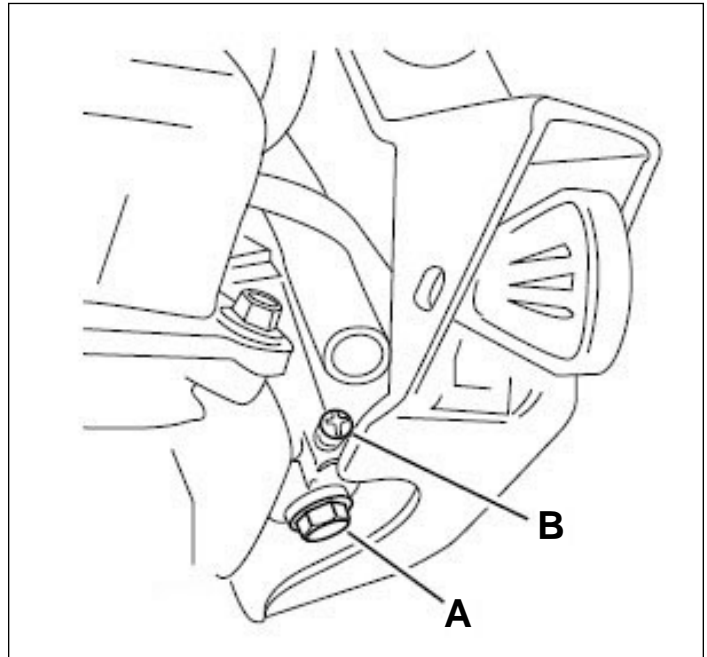

Fig. 008
- B. Unscrew, but do not remove, the small screw on the side of the carburetor fuel bowl (Fig. 008) until the fuel begins to drain from the carburetor. Drain the fuel into an approved fuel container.